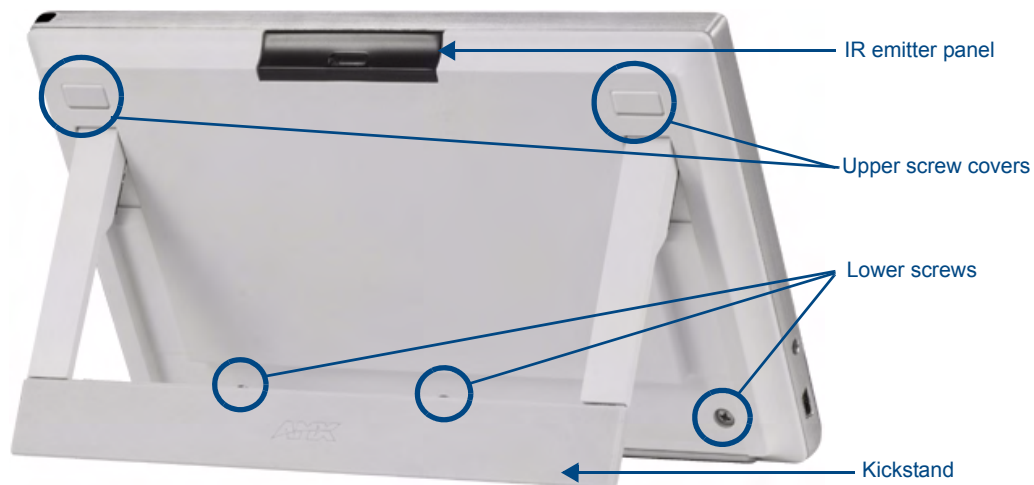

FIG. 89 Screw placement at the back of the MVP-5200i- GW
2. Place the device face-down and remove the five screws from the back of the device (FIG. 89).